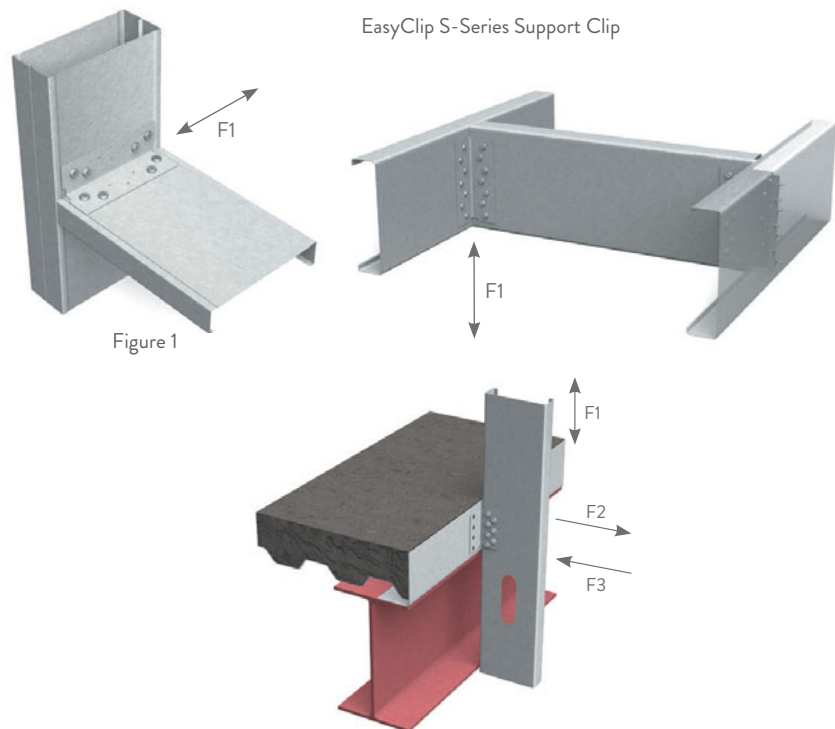

Figure 1
- Screws shall be attached in a symmetric manner, starting at the outside holes and moving to the center. Reference Figure 1 on opposite page.